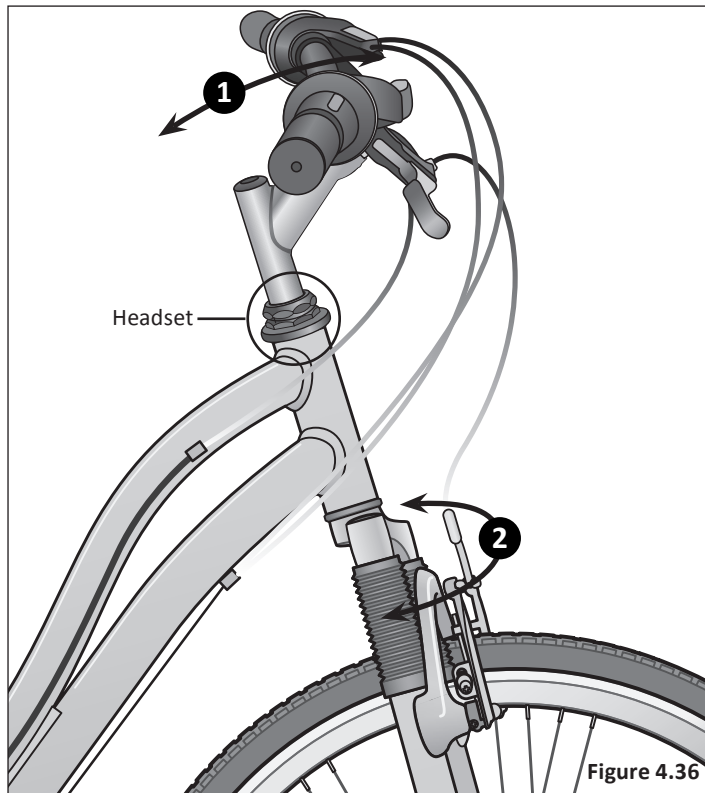

Figure 4.36
- 1 Shakiness:** Apply the front brake and push the handlebars back and forth, front to back. Or if the bicycle is on a workstand and the front wheel removed, push and pull on the forks. If you feel a knocking sensation or "clunk" it means the headset is too loose. **Important!** Use care with suspension forks, because the legs may have play in sliders. Grab upper portion of fork. **Figure 4.36**